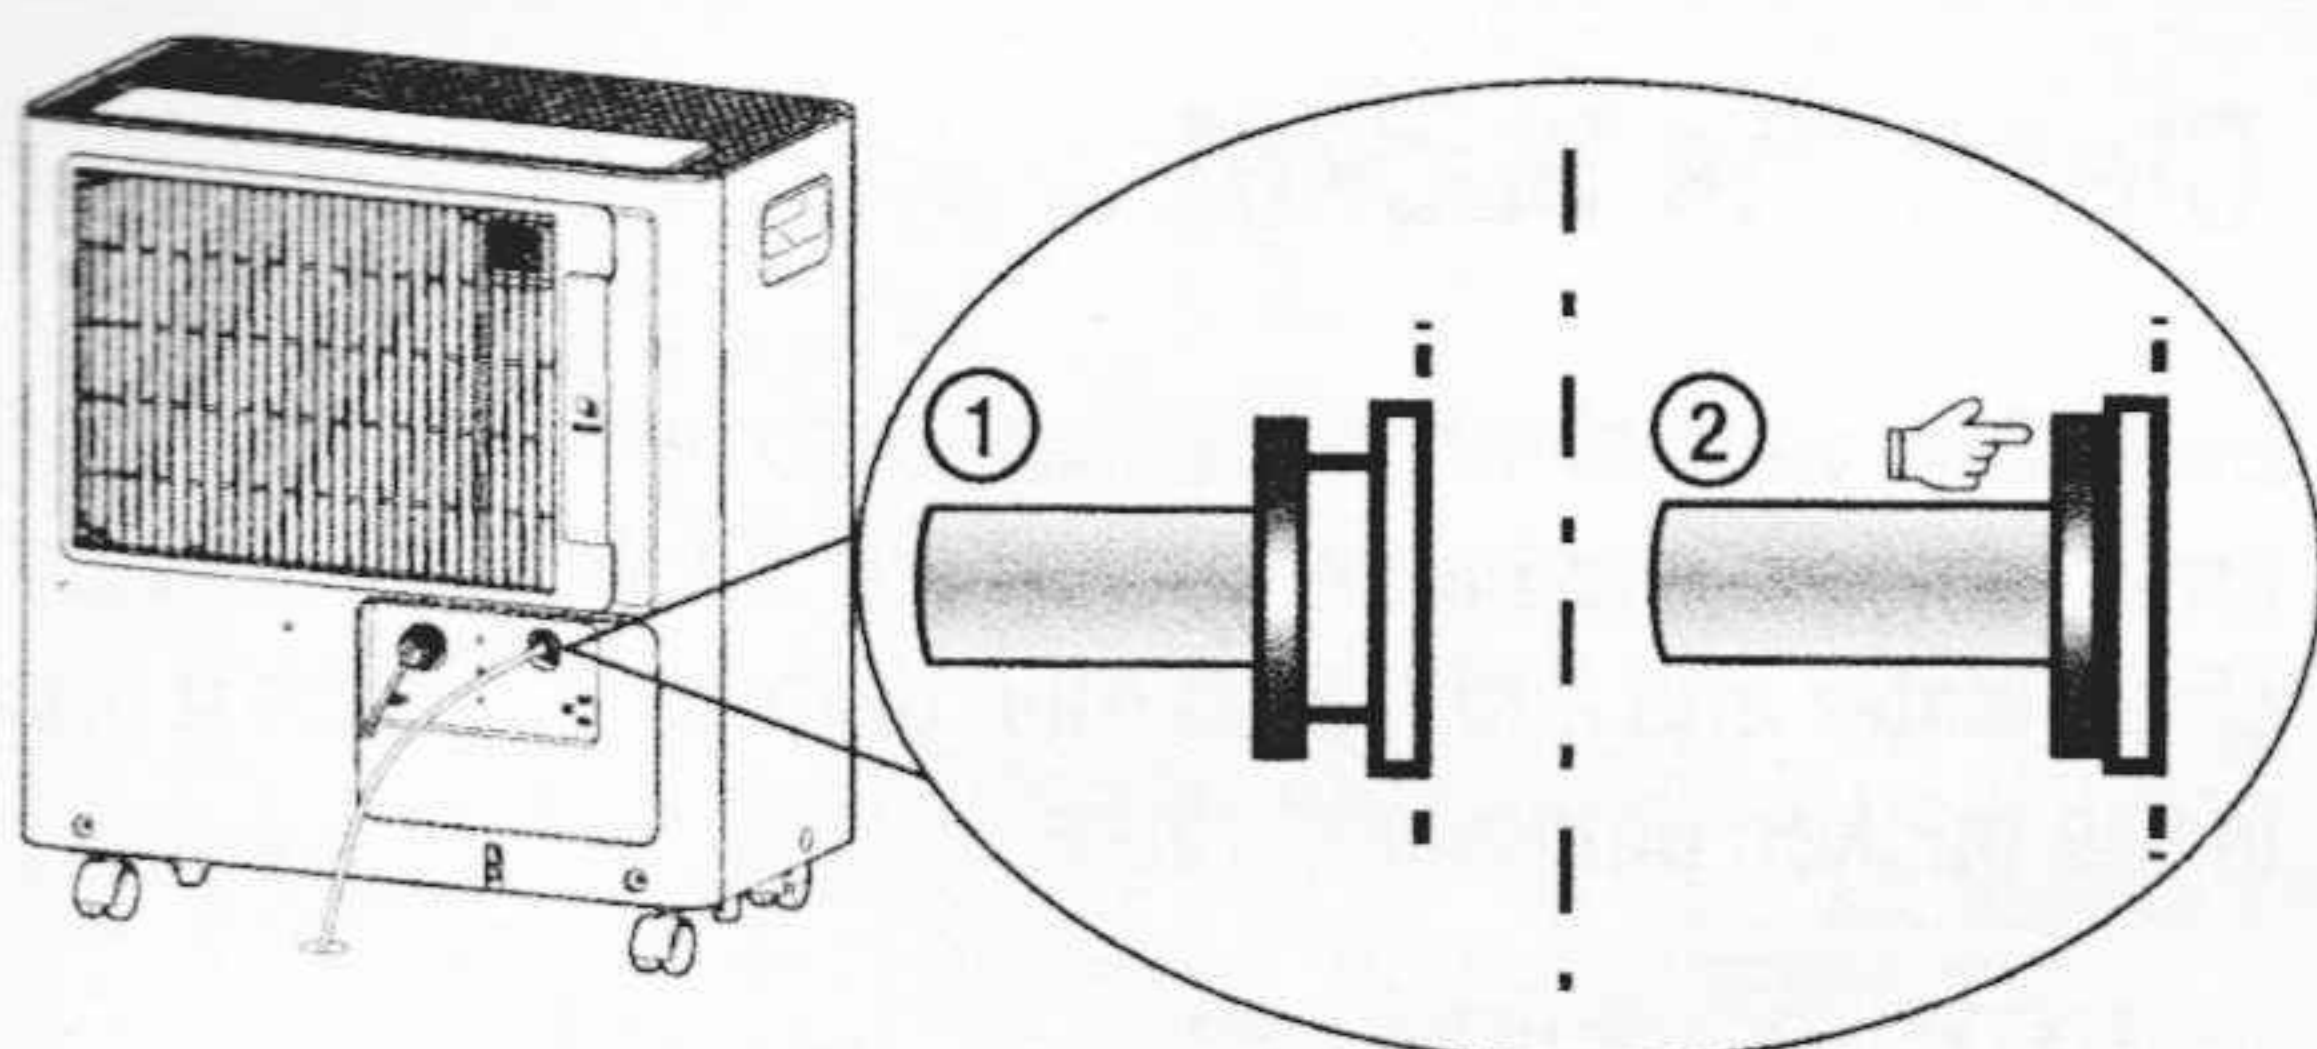

Fig. 5
- Press the tightening ring of drainage joint (as shown as Fig. 5).